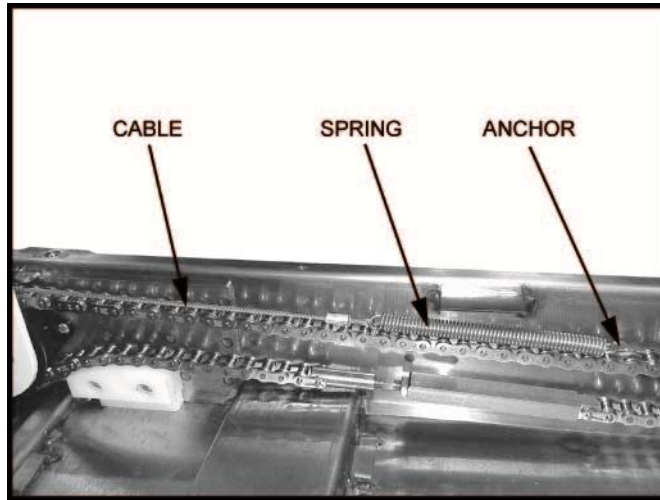

FIGURE 2-21: FRONT GATE CABLE, SPRING AND ANCHOR (LH SIDE SHOWN)
- e. Refer to **Figure 2-21**. Reinstall Front Gate Cable, Spring and Anchor.